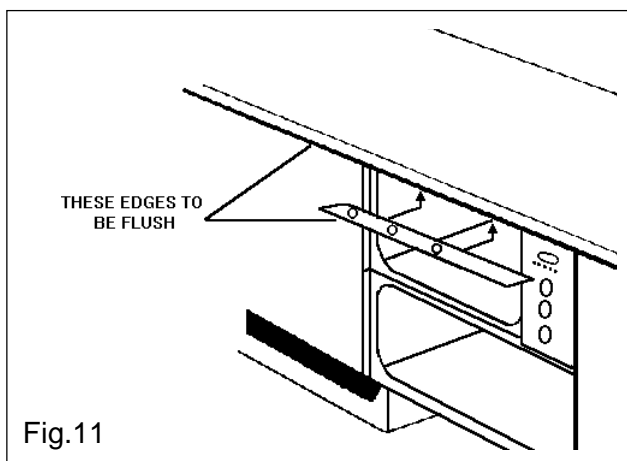

Fig.11
**Place the top trim with the cork washers uppermost flush with the edge of the worksurface (see Fig.11) and screw into position using the screws supplied with the appliance.**